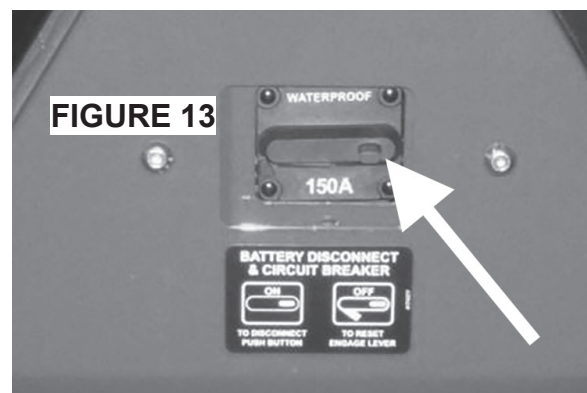

FIGURE 13
17. Park the tractor on level ground and engage the parking brake. Turn the key to the OFF position and remove it. Trip circuit breaker, which is located in the rear of the battery compartment, by pushing the red button. (Figure 13)